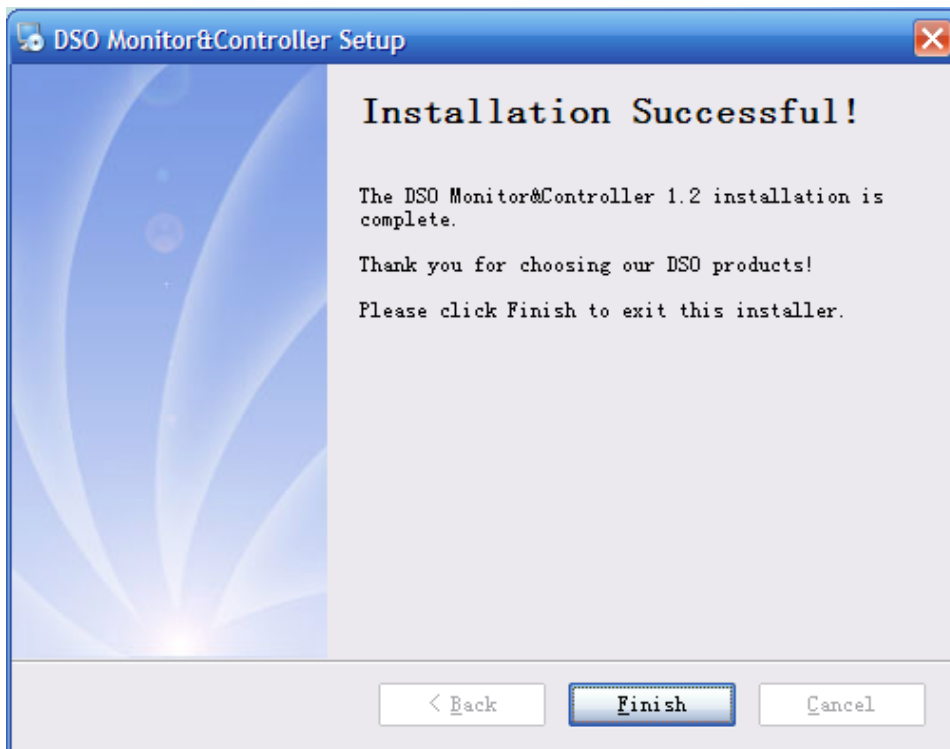

Figure 1-7
Step seven : When automatic installation is complete and the box shown in Figure 1-7 pops up, click the **FINISH (F)** button. Your oscilloscope communication and control software is now successfully installed on your computer and ready for use.